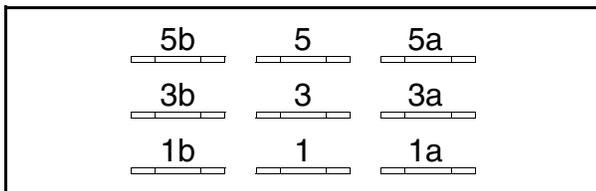
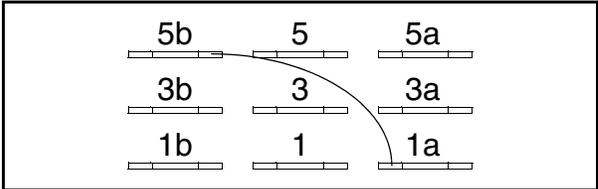

Figure 5
Figure 15
- Install or remove jumpers to achieve the desired cycle time. *Figure 5* through *Figure 15* illustrate the permissible jumper combinations.
Removing all the jumpers extends the cycle time, making it as long as possible. See *Figure 5*.
This configuration shortens the final spin time from 4 minutes to 2 minutes. See *Figure 15*.